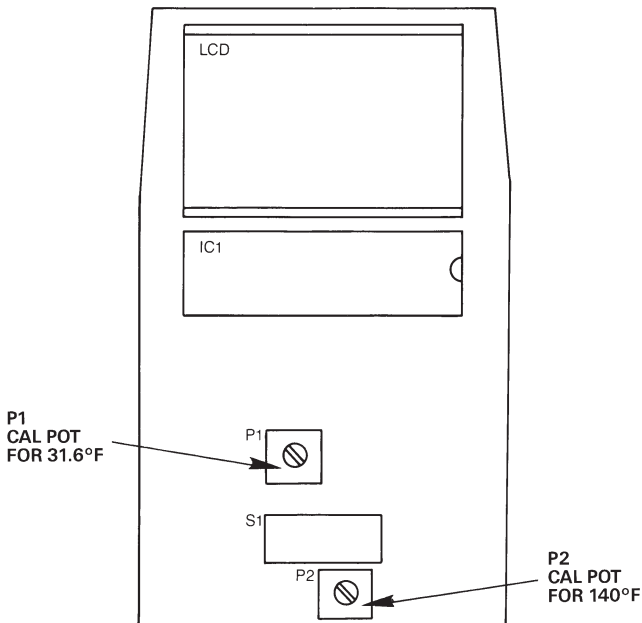

Figure 10-1 RH-20/RH-21 Temperature Calibration Pots
5. Turn the unit on to read temperature. Adjust P1 (see Figure 10-1) until the display reads 31.6°F (0°C). Disconnect resistor.